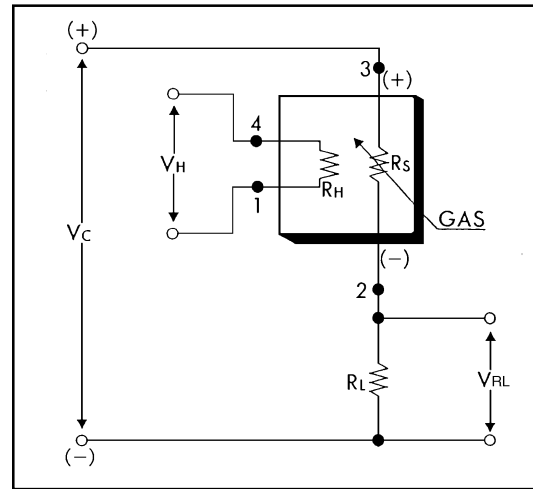
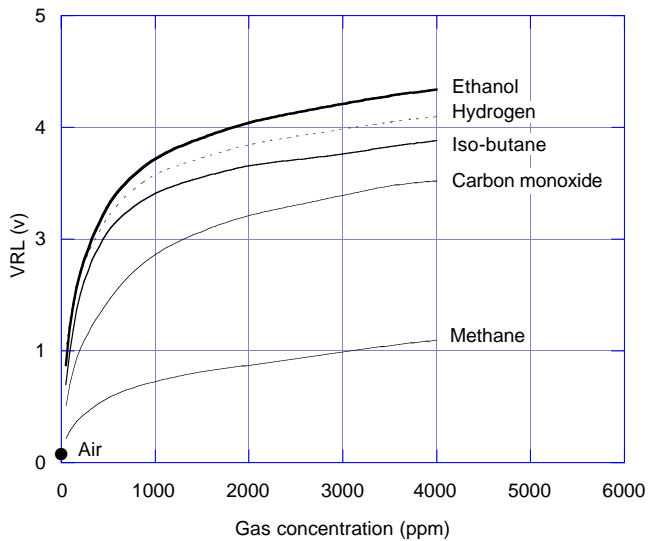

Fig. 2 - Basic measuring circuit
Fig. 5 - Sensitivity to various gases (VRL)
Figure 2 shows the basic measuring circuit. Circuit voltage (Vc) is applied across the sensor element which has a resistance (Rs) between the sensor's two electrodes and the load resistor (RL) connected in series. When DC is used for Vc, the polarity shown in Figure 2 **must** be maintained. The Vc may be applied intermittently. The sensor signal (VRL) is measured indirectly as a change in voltage across the RL. The Rs is obtained from the formula shown at the right.
Using the basic measuring circuit illustrated in Fig. 2 and with a matched RL value equivalent to the  $R_s$  value in 300ppm of ethanol, will provide the sensor output voltage (VRL) change as shown in Figure 5.